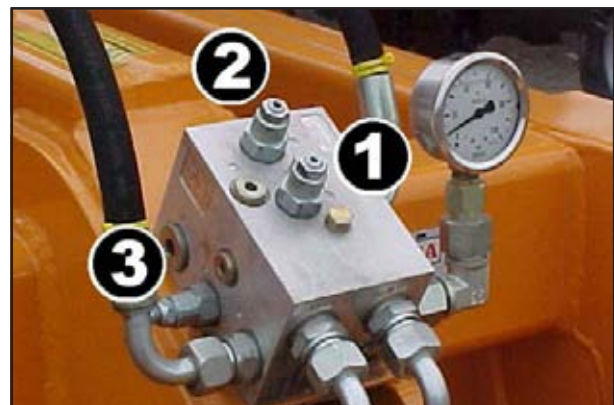

Fig. 5.04: Manifold Block
2. If the system needs adjusting:- Partially fold the wings & hold them in this position. To adjust the pressure utilise valve 3 (shown in Fig. 5.04). Unscrew the adjusting screw until no resistance can be felt (almost fully unscrewed position). Unfold the wings fully as before, checking the gauge reading. Maintain hydraulic pressure unfolding wings & adjust the screw whilst pressurising.